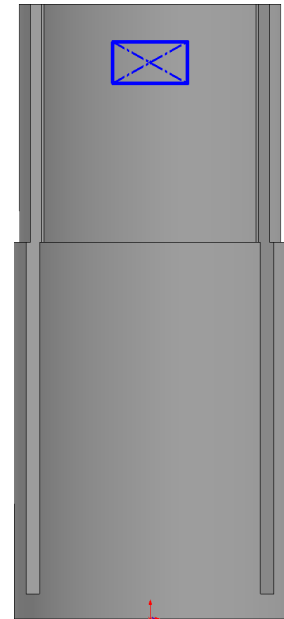

Fig. 100
Step 4. Sketch small rectangle below top of Can, **Fig. 100**.